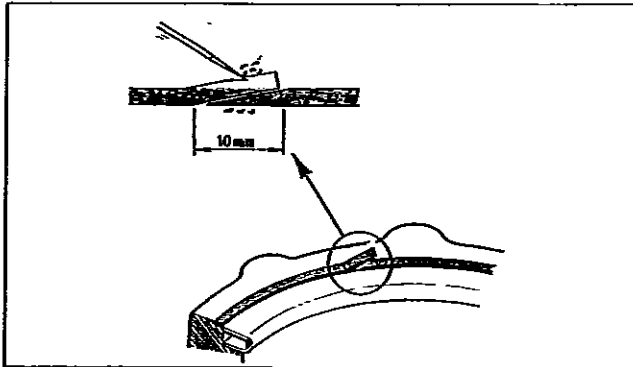

Fig. 11. Mounting the body seal
- Mount a new, self-adhesive body seal (19) into the body. The surface must be clean and free of grease. Handle the ends of the seal according to Fig. 11.
- Centre the seat ring (4) carefully into its groove and turn the disc to maintain light contact with the seat.
- Mount the clamp ring and tighten the screws (27) lightly.
- Tighten the screws (27) evenly. An unevenly tightened flange may damage the seat ring. The screw heads must be below the flange surface.